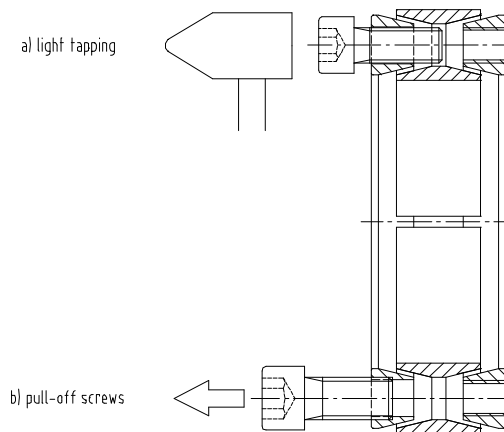

fig. 2
2. Hub and Locking Assembly are normally removed together . Removal of Locking Assembly only from deep counterbores is accomplished by inserting pull -off screws or threaded bars (not provided) into threads located under zinc plated locking screws (fig. 2). These threads are NOT to be used for high pulling forces